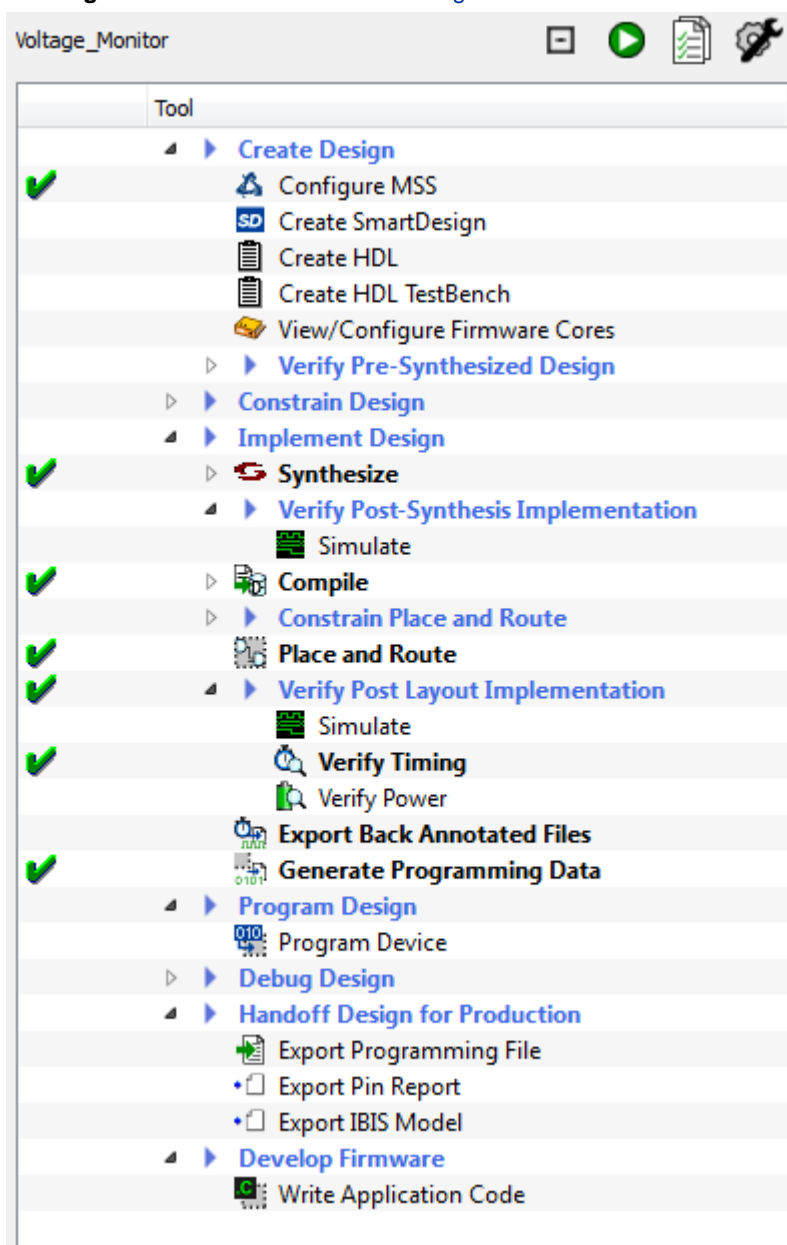

Figure 60 · Design Flow Window After Building The Project
7. The **Design Flow** window looks similar to Figure 60 .